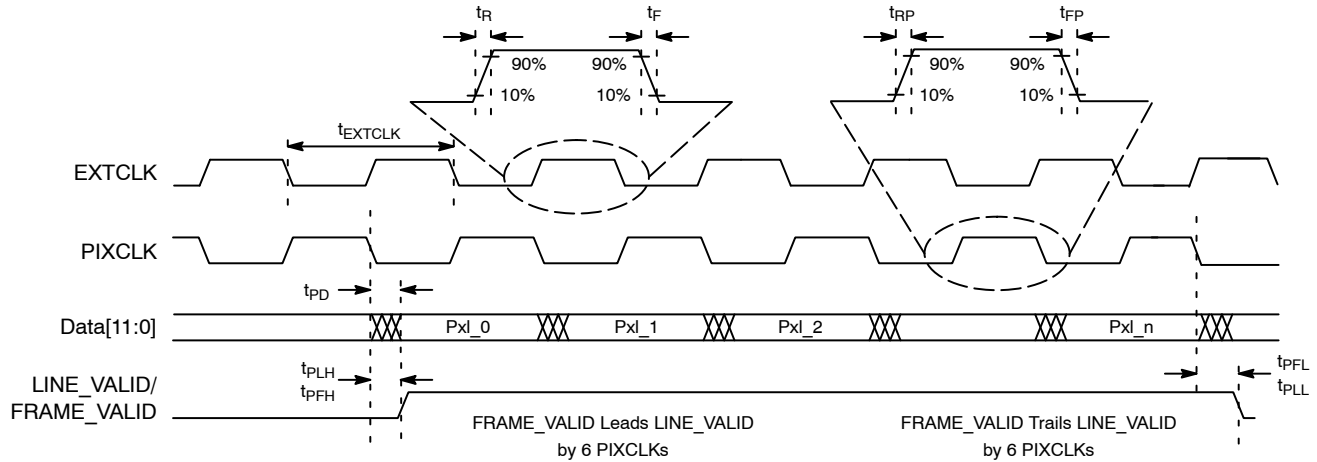

Figure 15. I/O Timing Diagram
edge of PIXCLK. The launch edge of PIXCLK can be configured in register R0x3028. See Figure 15 and Table 6 for I/O timing (AC) characteristics.